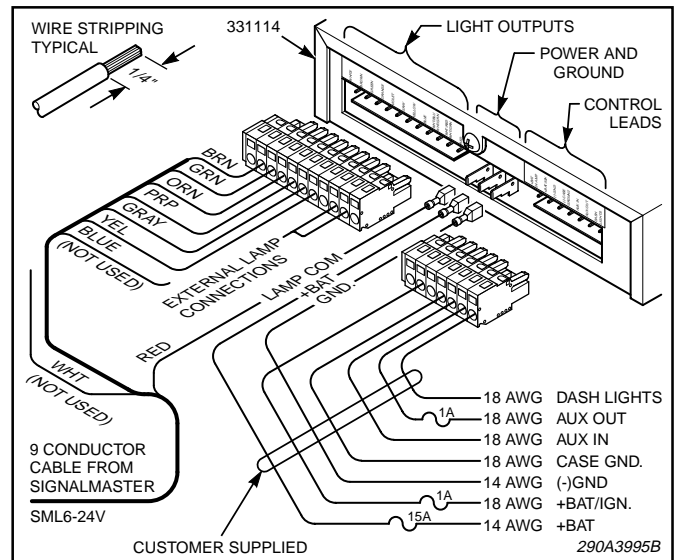

Figure 2.
The control unit is supplied with a seven-position connector, an eleven-position connector, and insulated spade connectors (0.250" (1) and 0.187" (2)) to perform the electrical installation. User-supplied, 14-gauge red and black wires are required for the (+) BAT and (-) GND connections. User-supplied, 18-gauge red and green wires are required for the (+) IGNITION and (-) CASE GROUND connections on the seven-position connector. In addition, user-supplied 18-gauge wire is used for the AUX IN, AUX OUT, and DASH LIGHTS connections. Using figure 2 as a guide, complete this portion of the installation as follows:
To avoid damage and ensure proper operation, the red and black wires MUST be installed as shown in figure 2.
- a. Strip 1/4" of insulation off of each 14AWG red and black wire. See figure 2. Crimp a 0.187" wide spade receptacle on the red wire. Crimp the 0.250" wide spade receptacle on the black wire.
- b. Connect the red and black 14-gauge terminated wires to the +BAT and GND positions as shown in figure 2.
- d. Connect the 18-gauge red (IGNITION) and green (CASE GROUND) wires to the connector as shown in figures 2 and 3.
The AUX OUT connection will provide a ground to activate a ground-activated relay (user-supplied) when the AUX switch is operated. To perform the wiring for these connections, proceed as follows (see figures 2 and 3):
See figures 2 and 3. Connect a user-supplied 18-gauge wire to the seven-position connector's DASH LIGHTS connection. Route the wire to the vehicle instrument light circuit (if backlight dimming is required) or the accessory terminal of the ignition switch and terminate as required.
c. Connect the 22-gauge wires to the eleven-position connector as shown in figures 2 and 3. Positions 1 and 8 will not be used. Positions 9 and 10 are used for external lamp connections. Each of these two positions provides an alternating ground signal to activate external lamps. The maximum current draw for each position is 2-amperes.